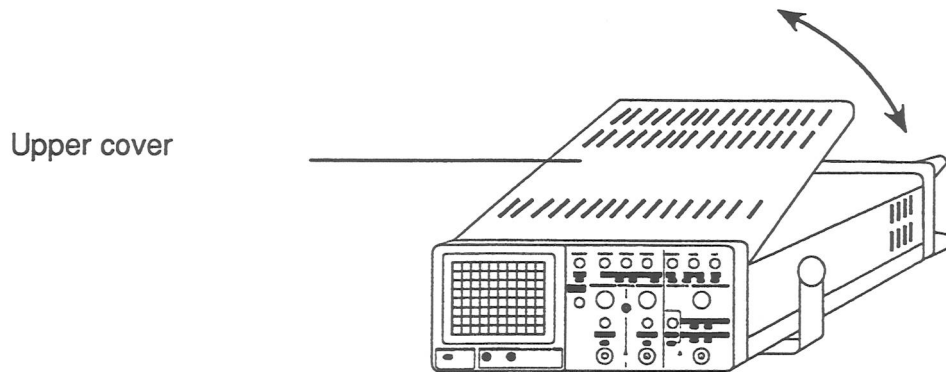

figure 17
- Remove the top cover, taking care to disengage it from the front panel (figure 17).
- Reposition the cover, ensuring the front part mates with the front part of the oscilloscope (Figure 17).